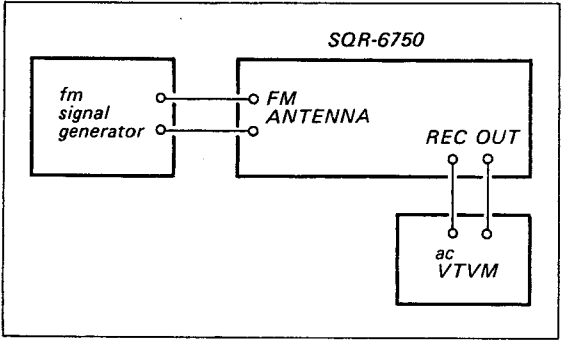

Fig. 3-2. Fm i-f alignment and fm frequency coverage alignment setup
1. Connect the equipment as shown in Fig. 3-2.